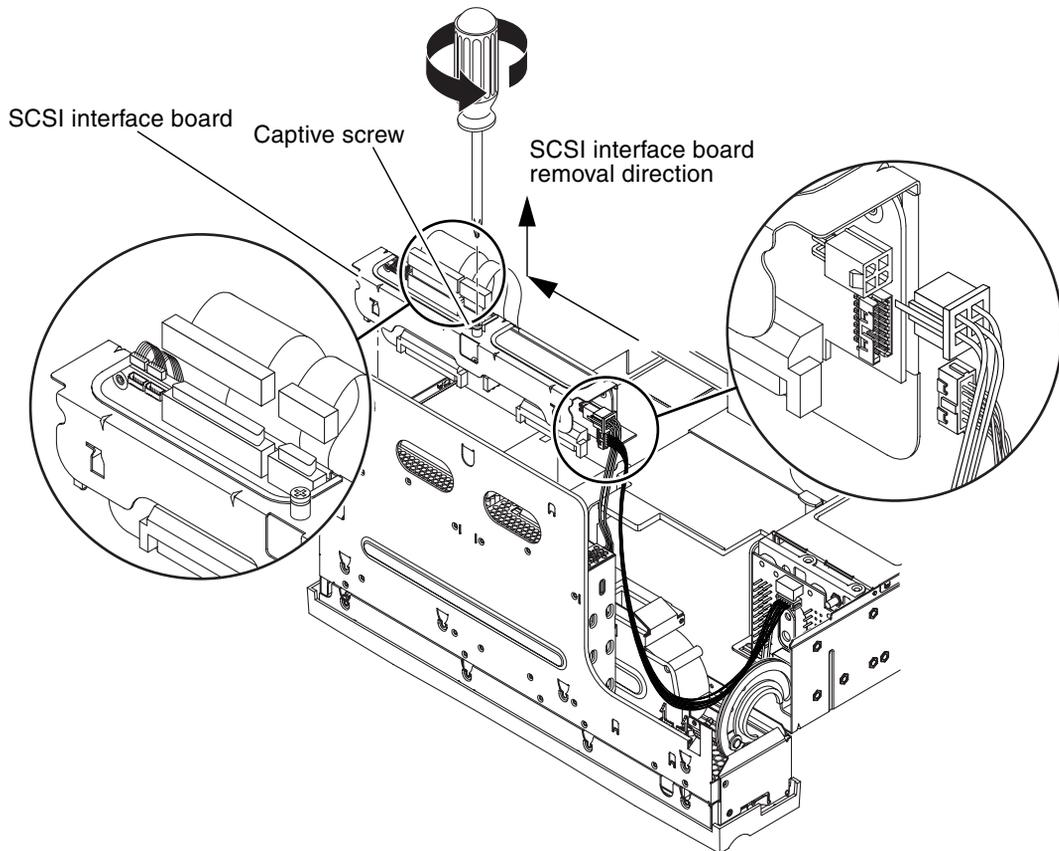

FIGURE 4-3 Removing the SCSI Interface Board
8. Using a No. 2 Phillips screwdriver, loosen the green captive screw on the top of the SCSI interface board (FIGURE 4-3).
9. Detach the bezel cables, the SCSI interface cable, the DVD power/I²C interface ribbon cable, the alarm board cable, and the SCSI interface board power cable from the SCSI interface board (FIGURE 4-3).
- 1. When standing in the front of the server, place the SCSI interface board into position in the rotating service module (FIGURE 4-3).**
- 2. Tighten the captive screw to secure the board to the rotating service module (FIGURE 4-3).**
- 3. Attach and route the bezel cables, the SCSI interface cable, the DVD power/I²C interface ribbon cable, the alarm board cable, and the SCSI interface board power cable to the SCSI interface board (FIGURE 4-3).**